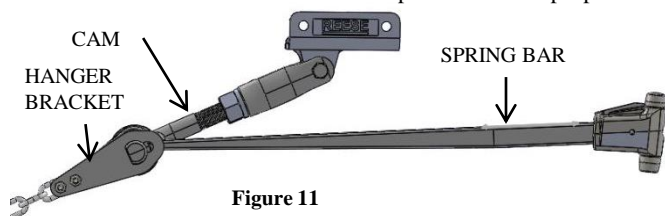
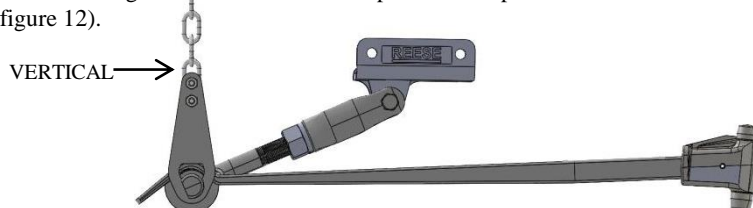

Figure 11
Figure 12
1. With the C-clamps still in place, center punch (2) holes in the frame for each bracket.
2. Drill (2) 17/32" holes in each side of the frame where the punched center marks were made. The use of a center drill or small pilot hole may be very helpful prior to final drilling.
3. Install the (2) supplied 1/2-13 x 1 1/2" Bolts, 1/2" Lock Washers & 1/2" Nuts (items 5,6 & 7) figure 12. Repeat for opposite side and torque (4) 1/2-13 Bolts to 85 ft-lb.
3. Install the Hanger Bracket (with the ends of the u-bolts facing outward) and Chain onto the cam by slipping the keyed slot of the hanger bracket over the button end of the cam arm (figure 11). Rotate Hanger bracket to the vertical position and pull chain vertical to the chain attachment point on the snap-up bracket (figure 12).